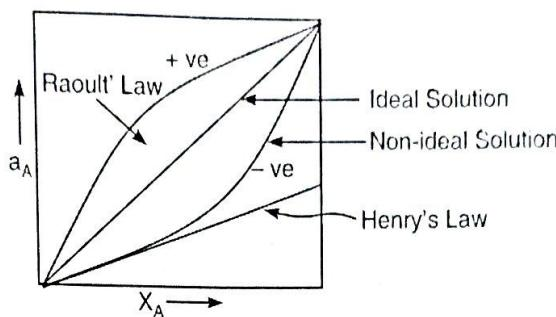

Fig 8.3: Henry's law curve
*Henry's law* states that the activity of a component (i.e., solute) is proportional to its mol fraction. e.g.  $a_A \propto X_A$  (as shown in Figure 8.3).